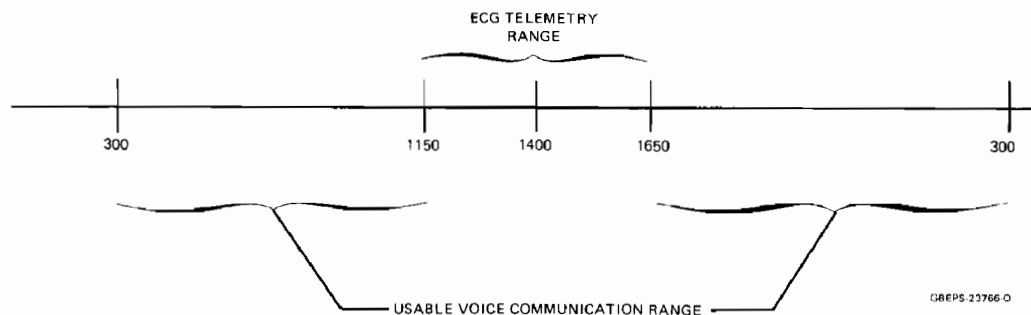

Figure 3. Frequency Spectrum of a Duplex-Multiplex System
3.4 The duplex-multiplex technique is achieved by reserving sections of the transmit audio spectra for different purposes and transmitting the combined audio to the hospital (see Figure 3). The circuit and system technique required to allow the system to operate duplex/multiplex is fully described later in this supplement.